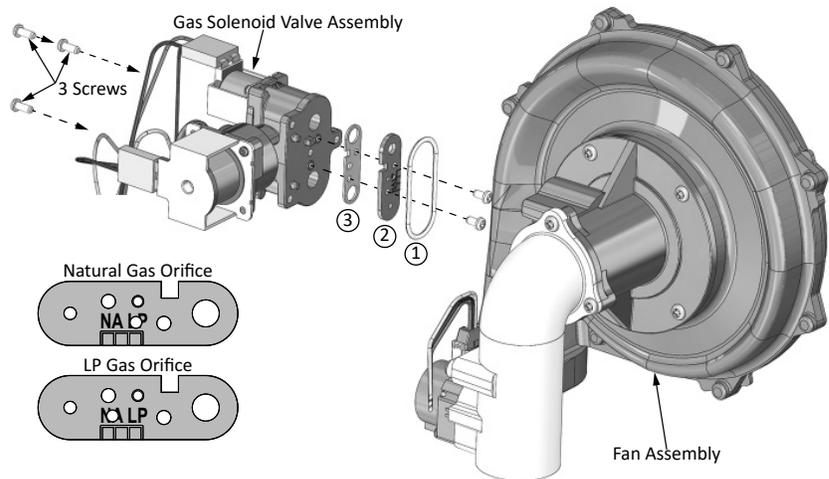

Figure 35: Fan Assembly
- 5 Remove and set aside the three screws securing the gas solenoid valve assembly to the fan assembly. Figure 35.
- 6 Separate the gas solenoid valve assembly from the fan assembly. This can be done without disconnecting the various wiring connections. See Figure 35.
- 7 Remove and set aside the two screws securing the orifice and orifice gasket to the gas solenoid valve assembly. Set the screws aside for re-installation. See Figure 35.
- 8 Remove the oval O-ring ① from the gas solenoid valve assembly. See Figure 35.
- 9 Before proceeding, confirm the new orifice is correct for the type of gas you are using. Assemble the new orifice components in the following order. See Figure 35 for assembly order and gas orifice plate identification.
- ① Oval O-ring.
- ② Orifice
- ③ Orifice Gasket
Note the orientation of the components. All holes will line up if it is correctly oriented. Secure the orifice components with the two screws removed earlier. See Figure 35.